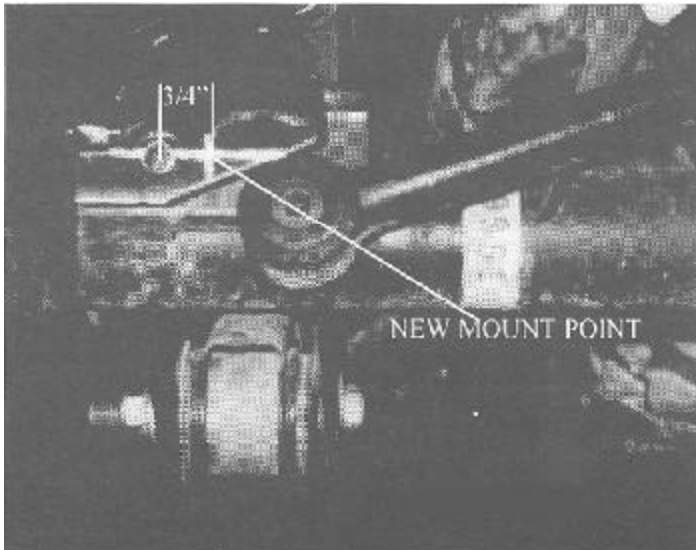

Fig. 2
- e. Install the TM front coil springs (232) into the OE spring mounts.
4. Move track bar mount hole over to the DRV side 3/4" as shown in **Fig. 2**.